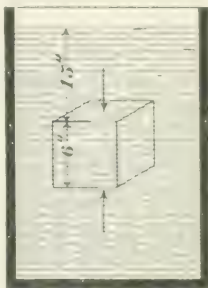

FIG. 11.
26. In Fig. 11 is shown a 6-inch cube entirely submerged in water. The lateral pressures are equal and in opposite directions. The upward pressure acting on the lower surface of the cube is $6 \times 6 \times 21 \times .03617$; the downward pressure acting on the top of the cube is $6 \times 6 \times 15 \times .03617$; and the difference is $6 \times 6 \times 6 \times .03617$, which equals the volume of the cube in cubic inches times the weight of 1 cubic inch of water. That is, the upward pressure exceeds the downward pressure by the weight of a volume of water equal to the volume of the body.